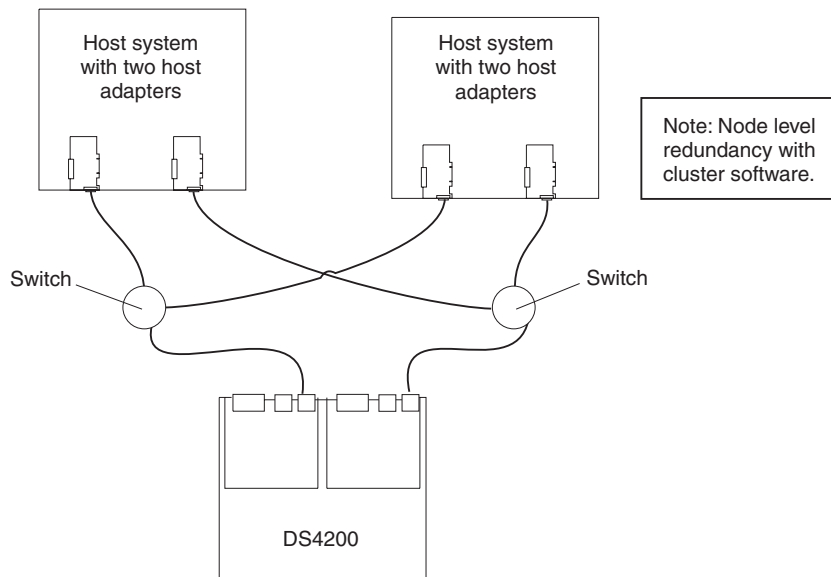

Figure 59. Example of a dual SAN fabric configuration
- Dual SAN fabric configuration, as shown in Figure 59 on page 76
In Figure 59, the fibre channel switches are connected together via the inter-switch link (ISL) to form a dual SAN fabric.